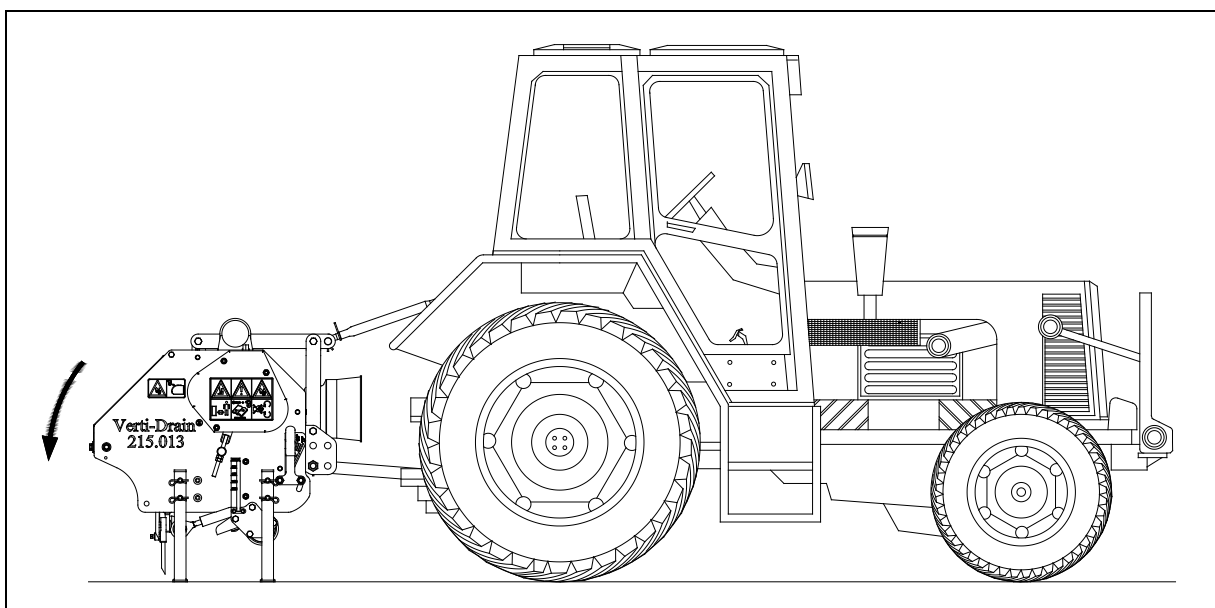

Fig. 12
3. Assemble legs so the Verti-Drain® will rest on the legs when the machine is lowered further (see fig. 12).